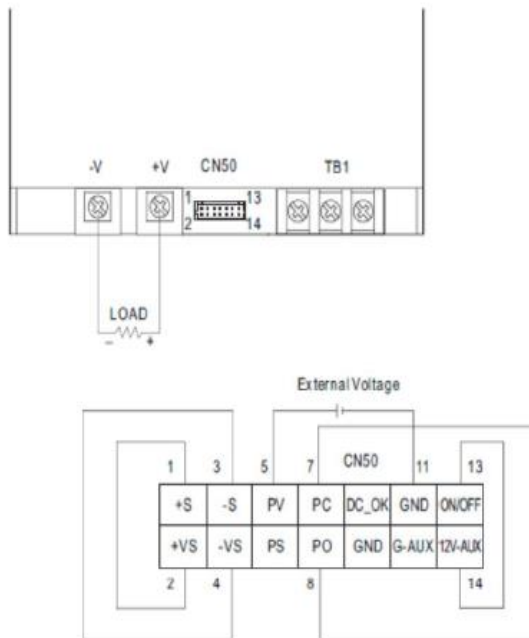

Fig 5.1
- (1) Using external voltage source between "PV"(pin 5) and "GND"(pin 10, 11) that is shown in Fig5.1